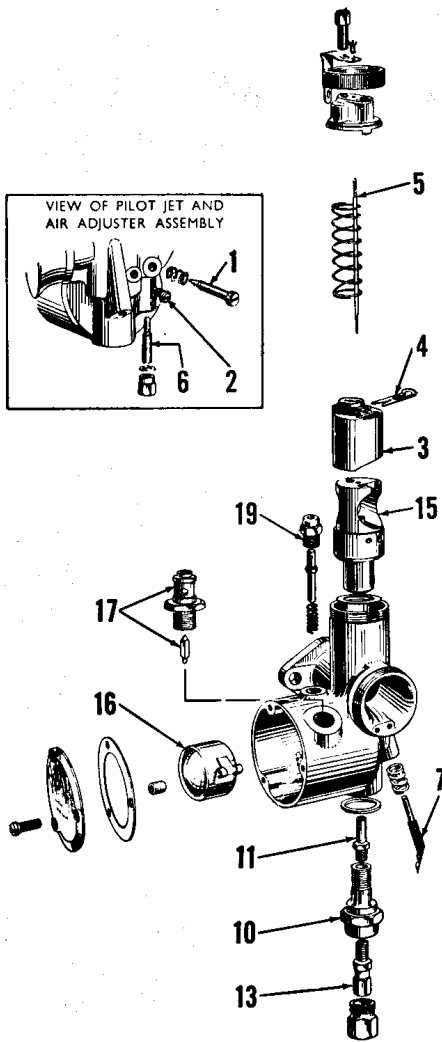

Fig. N2-1—Exploded view of typical Amal Monobloc carburetor.
On all models, idle mixture is adjusted at screw (1—Fig. N2-1 or Fig. N2-2) and idle speed at screw (7). On